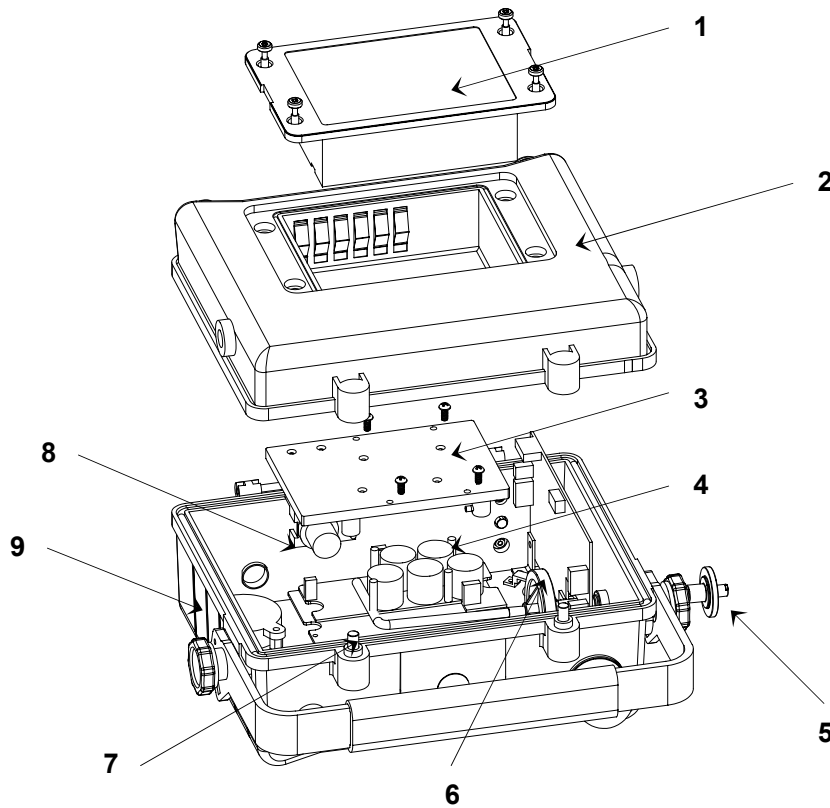

Figure 6-1 Main Components of AreaRAE
3. Refer to Figure 6-1, open the monitor housing by unscrewing the two captured hex screws from the top of the monitor case.
2. Refer to Figure 6-1; open the monitor cover by unscrewing the two hex screws holding the housing together from the top of the monitor case.
2. Refer to Figures 6-1, 6-2 and 6-3. Remove the two hex screws holding the instrument housing together, then carefully unscrew four No. 2 screws that hold down the gas piping plate to the analog PCB and sensors. Remove the gas piping plate.